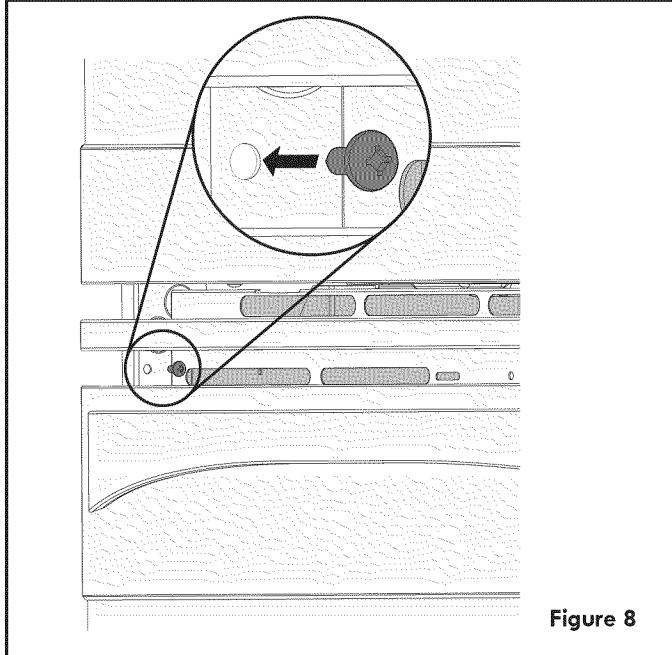

Figure 8
- A. The mounting holes in the side trims may be used as a template to locate the appliance mounting screw holes (see figure 8).